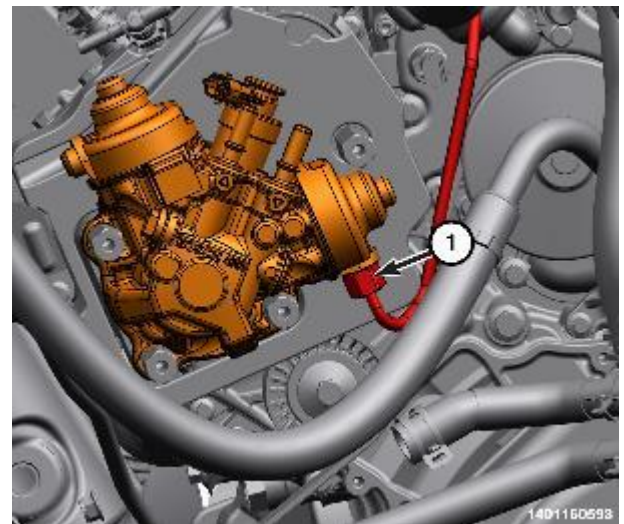

Figure 161 – Union Nut
- 27. Unscrew the union nut (1) from the fuel injection pump (Figure 161).
52. Install the **NEW** left-side fuel tube (1) to the fuel rail and pump and hand tighten the union nuts. Tighten the union nuts to 11 + 75° (8 + 75°) (Figures 161 and 163).